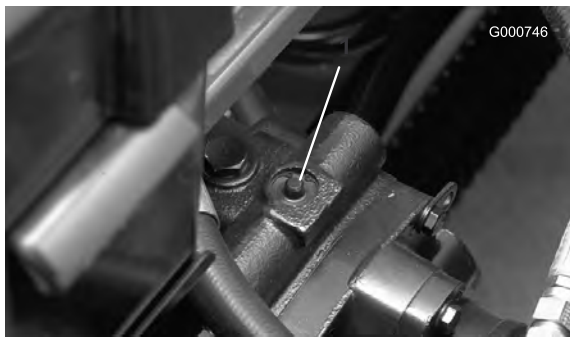

Figure 39
1. The bypass valve is located on top of variable displacement pump (Figure 39). Rotate the valve 90°, in either direction, to open and allow oil to bypass internally. Because fluid is bypassed, the machine can be moved slowly without damaging the transmission.